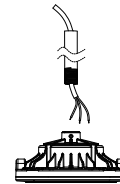
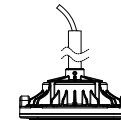

Figure 7
Figure 8
- 1.Connect the wires properly, and screw the threaded tube into the fixture.(figure 7, figure 8).